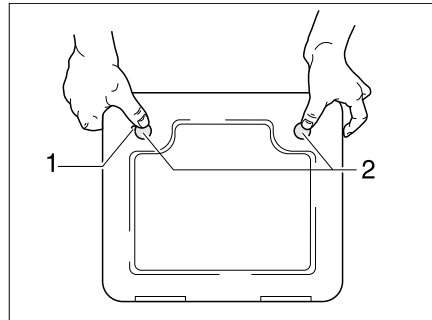

Fig. 364 Flap for the toilet cassette
- Open the flap for the cassette on the outside of the vehicle. Insert the key into the locking cylinder of the push-button lock (Fig. 364,1) and turn a quarter turn.
- Press both push-button locks (Fig. 364,2) simultaneously with your thumb and open the flap for the cassette.